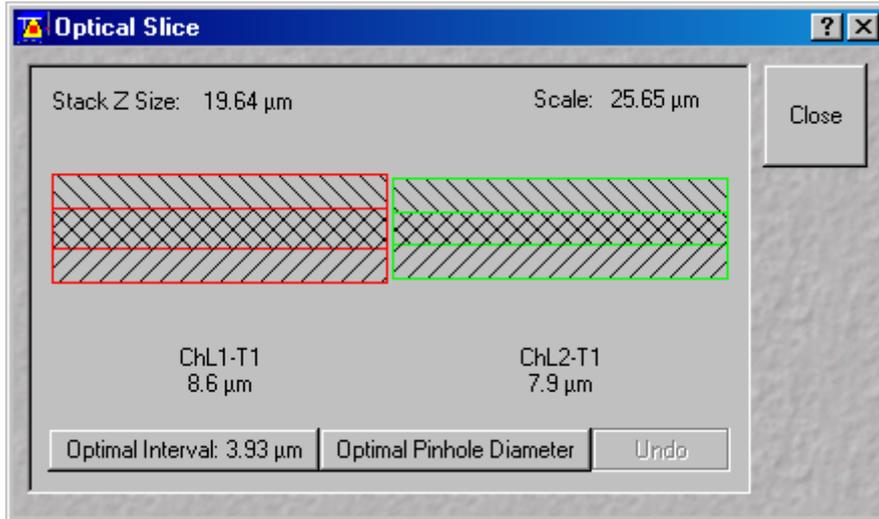

Fig. 4-105 Optical Slice window
**Z Slice:** Opens the **Optical Slice** window (Fig. 4-105). The **Optical Slice** window contains three buttons (**Optimal Interval: ...  $\mu\text{m}$** , **Optimal Pinhole Diameter** (confocal aperture) and **Undo**) to allow the setting of the optimal interval and the optimal aperture size of fluorescence stacks. Both values influence each other and depend on the objective used.